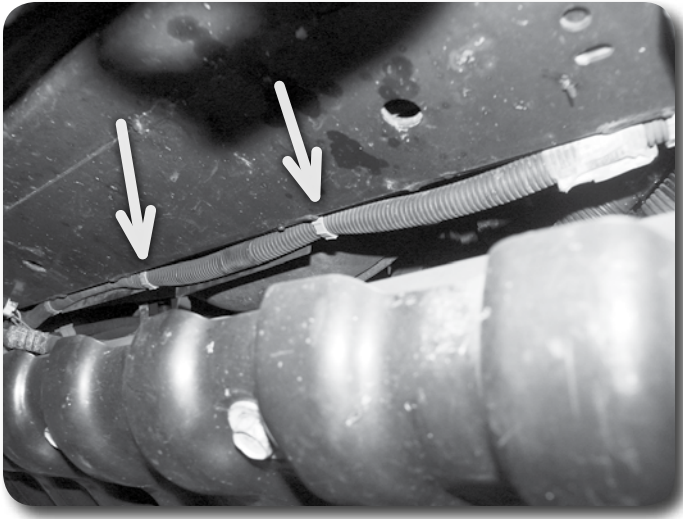

Figure 10
14. Locate the wire loom running along the bottom of the core support **Figure 10**. Remove the wire loom from the retain clips (approximately 4 total) and remove the clips from the core support. The clips will not be reused. If your vehicle is equipped with a mechanical fan, be sure that the lower portion of the fan shroud lip is clear from the bottom edge of the core support so it is able to drop while the body is lifted. If the vehicle is equipped with a front skid plate, removing the skid plate will aid in accessing the clips.